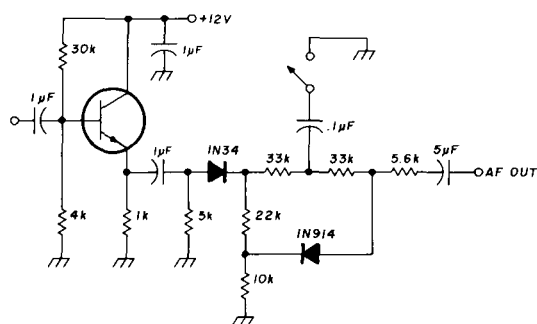

fig. 21. Audio noise limiter with low distortion.
**Noise limiter.** Noise pulses measured immediately after the first mixer can be as high as 100 times the level of the desired signal. The crystal filter reduces the amplitude of these pulses but introduces a delay, which causes ringing, or overshoot. Audio noise limiters, in my opinion, are generally worthless. However, there is one circuit that is fairly efficient. Fig. 21 shows the circuit,
One way out is to cascade some lowpass filters; however, the signal-to-noise ratio can be degraded. Fig. 21 shows an active bandpass filter I've used in the past. It is very well suited for CW reception, and the two back-to-back diodes act as a very convenient noise limiter.